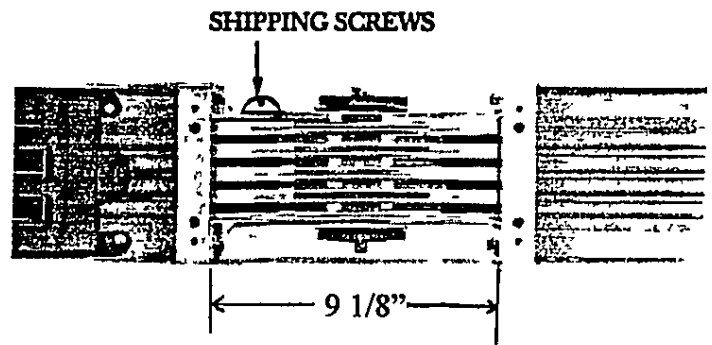
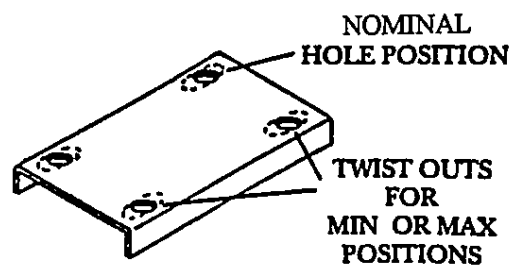
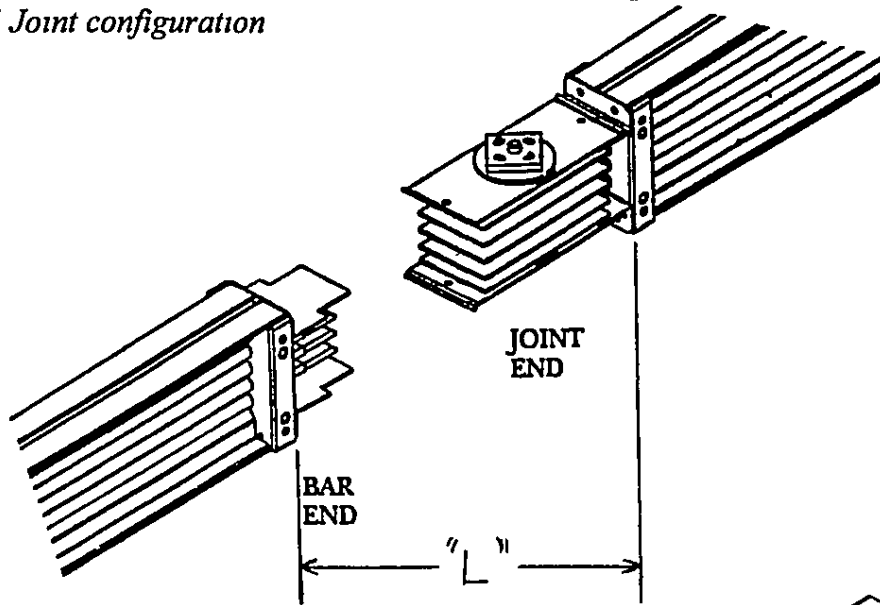
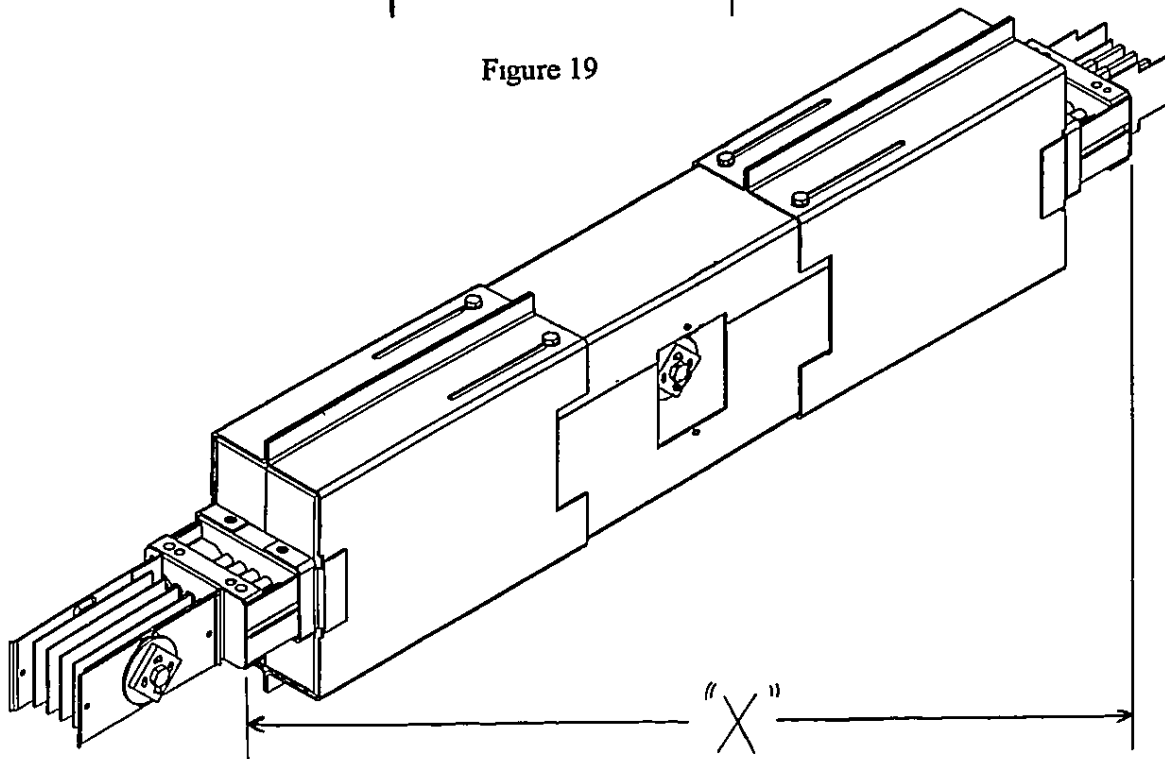

Figure 13 "Standard"
Figure 15 Joint Cap
Figure 19
Figure 20
6. The standard distance between the housings is $8 \frac{3}{8}$ " as shown in Figure 13. However, the joint is also adjustable as shown in Figures 12-14. Simply move the sections in or out to the desired length as shown and remove the twist-outs in both joint caps. See Figure 15
2. Remove the shipping screw, illustrated in Figure 13
Measure Opening "L" as shown from the end of each housing (fig 19) and subtract $18 \frac{3}{16}$ inches (with joints at "Standard", as seen in fig 13) This will provide you with the length "X" of the ASL from end of housing to end of housing (fig 20)